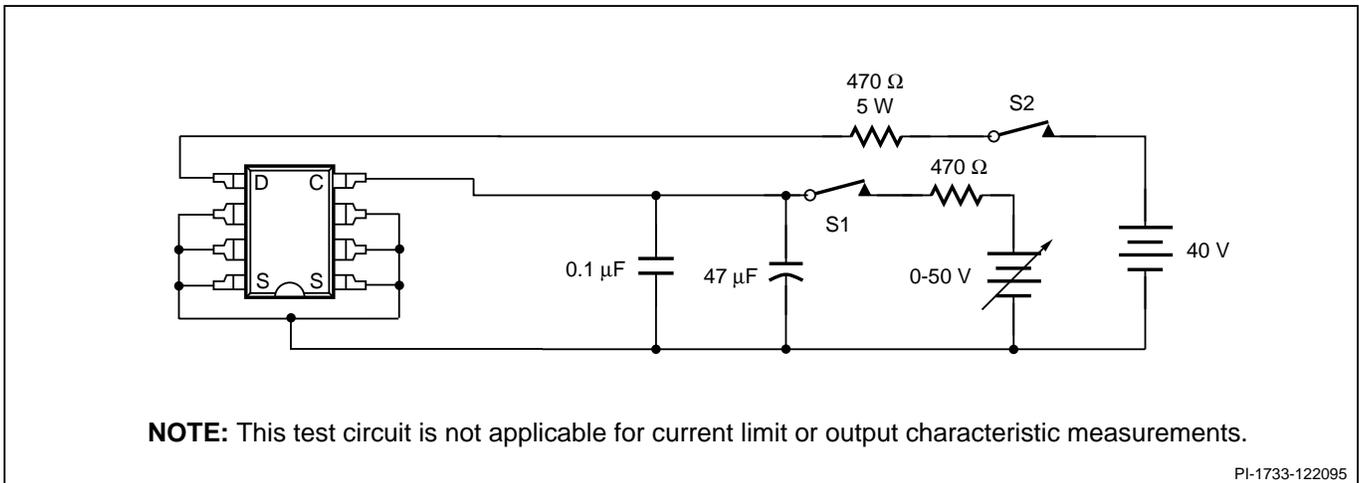

Figure 12. *TOPSwitch* General Test Circuit.
(Unless Otherwise Specified) See Figure 12 SOURCE = 0 V $T_j = -40$ to $125^\circ\text{C}$
- The breakdown & leakage measurements can be accomplished by using the *TOPSwitch* auto-restart feature. The divide-by-8 counter in the auto-restart circuitry disables the output MOSFET from switching in 7 out of 8 cycles. To place the *TOPSwitch* in one of these cycles, the following procedure can be carried out using the modified circuit of Figure 12:
The following precautions should be followed when testing *TOPSwitch* by itself outside a power supply. The schematic shown in Figure 12 is suggested for laboratory testing of *TOPSwitch*.